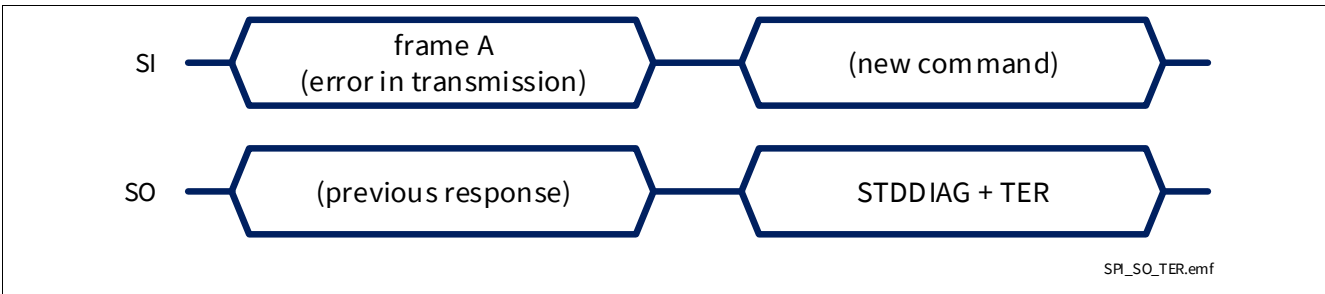

Figure 43 SPI response after an error in transmission
- In case an error in transmission happened during the previous frame (for instance, the clock pulses were not multiple of 8), shown in Figure 43